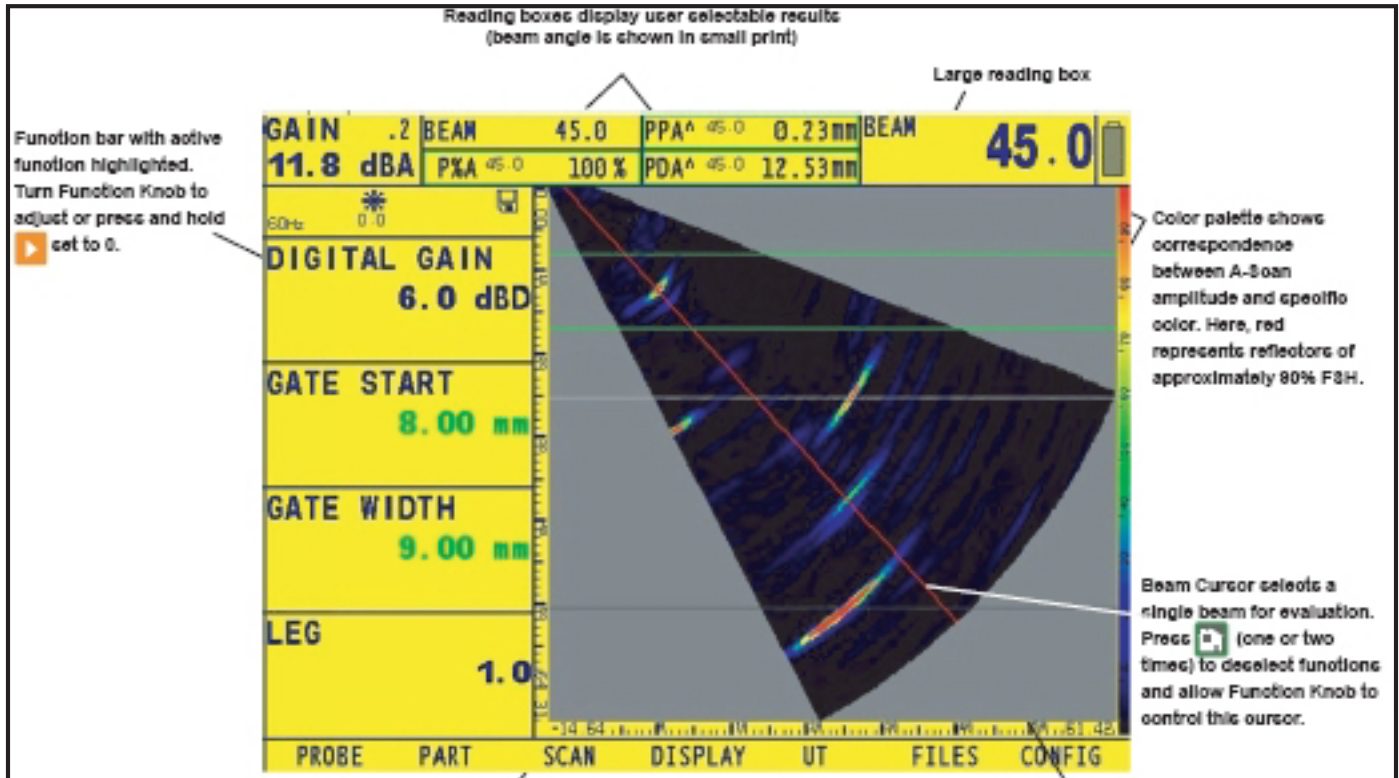

Figure 25: Either the Sector (shown here) or Linear Scan can be displayed by itself. Note key on-screen axes and other features identified here.
- Sector or Linear Scan only (Figure 25 on page 54)